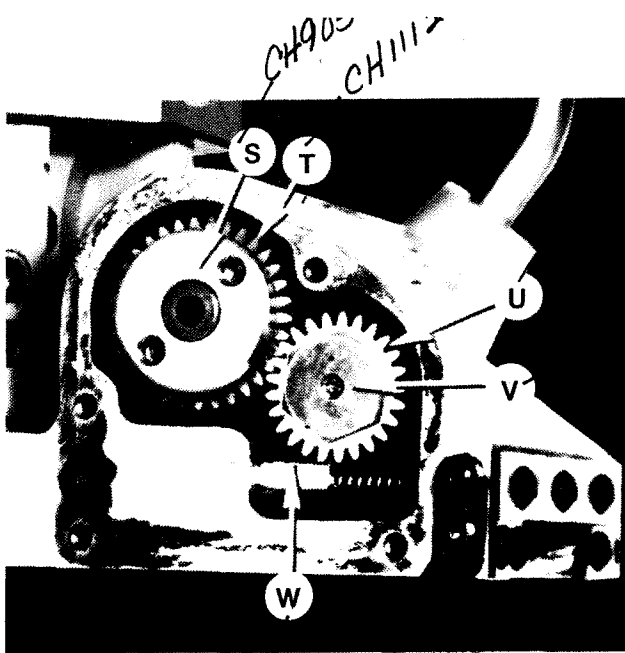

Figure 2.30 - Turret Indexing Gears and Rack
Bearing "X" is pressed into gear "U", Figures 2.30 and 2.31 .
15. Remove stud "V" and gear "U", Figures 2.30 and 2.31 .
19. Remove nut "S" and gear "T", Figures 2.30 and 2.33 .
Torque nut "S", Figures 2.30 and 2.33, to 250 lb-in (28.2 N•m).
8. Replace nut "S", Figures 2.30 and 2.33 .